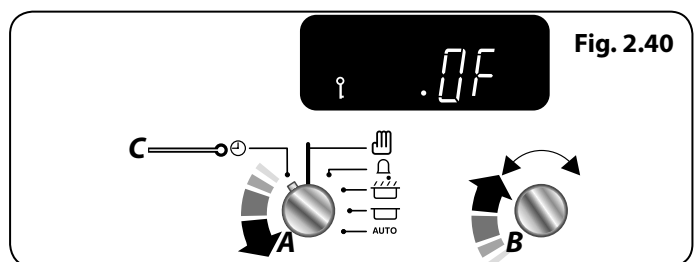

Fig. 2.40
3. Continue to hold the **Timer (A)** knob onto the **Clock (C)** setting, turn the **Adjusting (B)** knob clockwise, the 'OF' and the 'Key' symbol will display (Fig. 2.40). The oven is now locked.
4. To activate repeat steps 1 to 2 and continue to hold the **Timer (A)** knob onto the **Clock (C)** setting, turn the **Adjusting (B)** knob clockwise to 'ON', the 'Key' symbol will disappear and the oven is enabled.